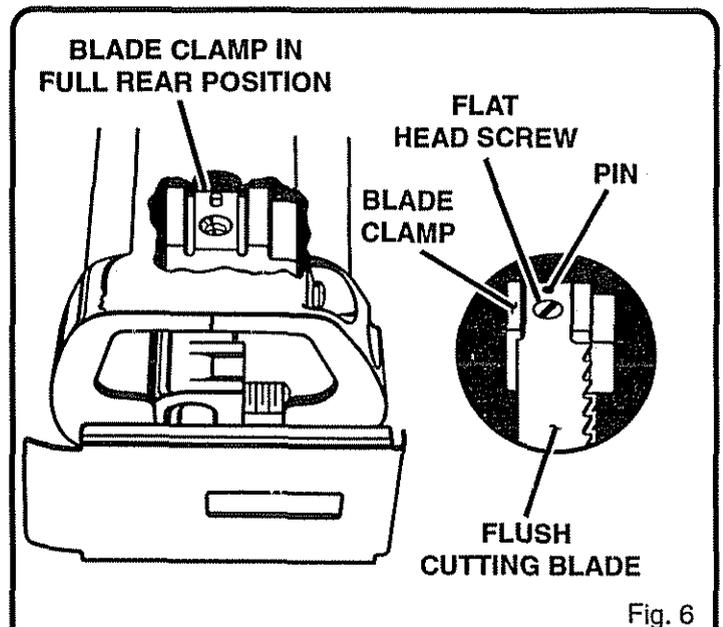

Fig. 6
See Figures 6 and 7.
2. Depress and release the switch trigger of your saw in quick, short starts and stops until blade clamp is in its full rear position. See Figure 6.
9. Insert flush cutting blade on top of blade clamp as shown in figure 6.